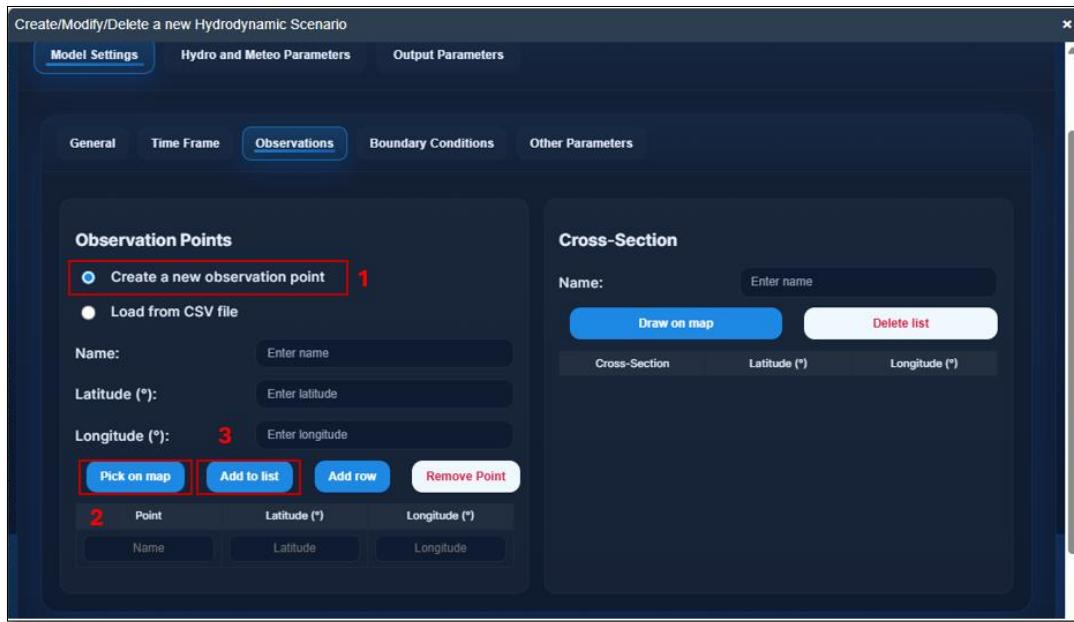

Figure 2.7. Add an observation point to the list
- *Step 4:* This window will display again, then hit the “**Add to list**” button to add the selected point to the list (**Figure 2.7**).